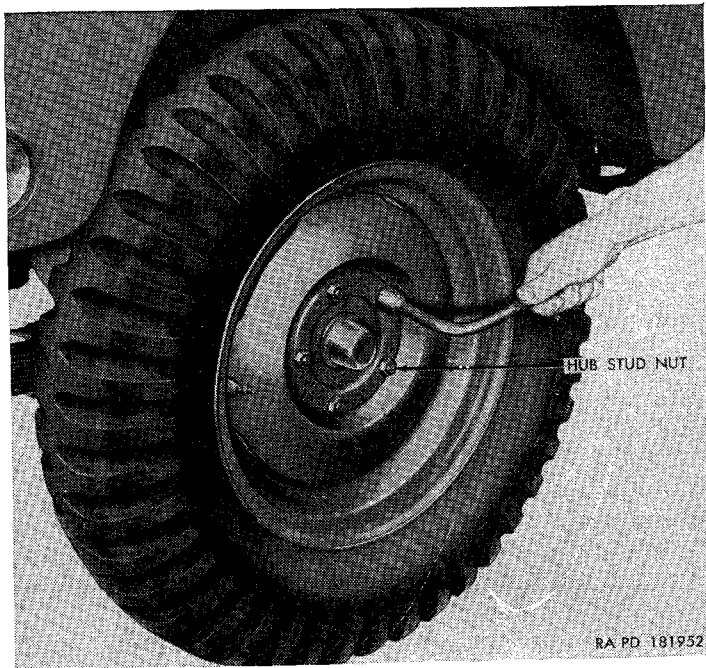
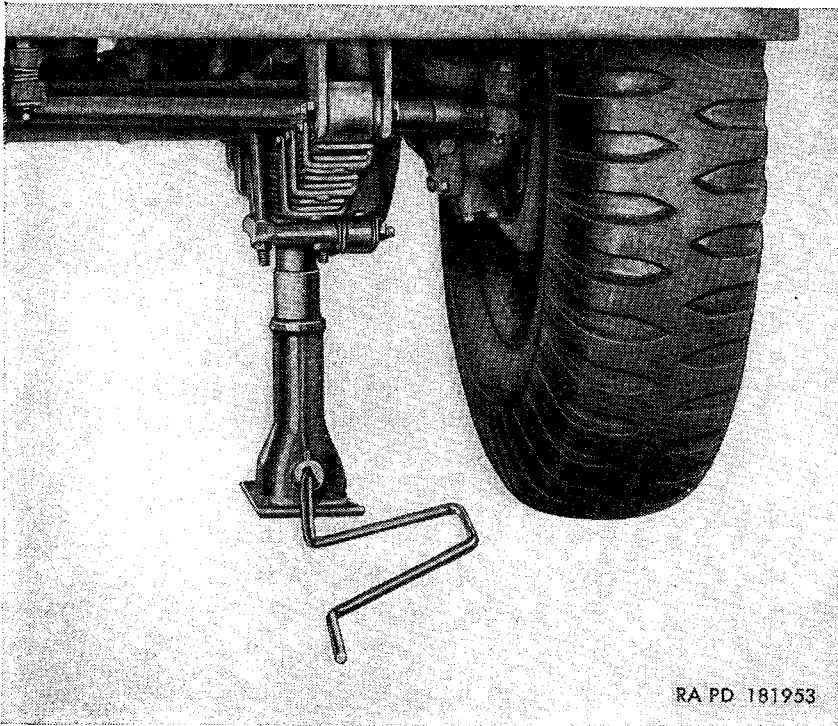

Figure 170. Loosening wheel hub stud nuts.
Figure 171. Front wheel of vehicle—jacked up.
*a. Removal.* Loosen five hub stud nuts (fig. 170) (left side vehicle, clockwise; right side, counterclockwise). Jack up vehicle (fig. 171) until tire clears the ground. Block other wheels to prevent vehicle from rolling. Remove five hub nuts and remove wheel.